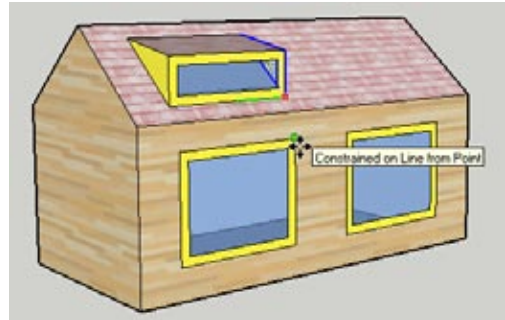

Figure 5-21
- To make the dormer the correct width, select all of the vertical edges on the right side (use a left-to-right selection window and check your selection in Wireframe mode). Move the selected edges by any point on the right edge, Shift-lock the green (or red) direction, and click any point on the right edge of the window below the dormer (Figure 5-21).